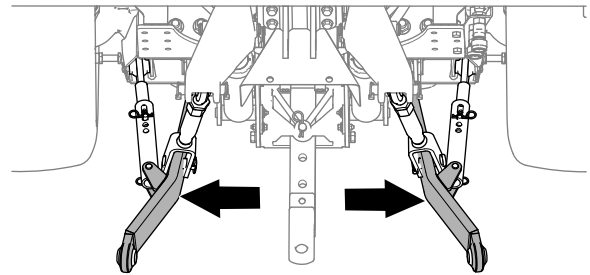

Figure 26
4. Adjust the stabilizer arms (Figure 26) outward fully; refer to the *Operator's Manuals* for the tow machine.